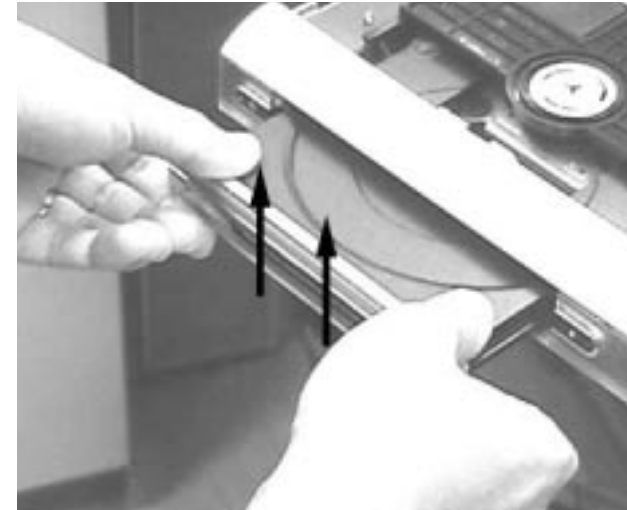

Figure 2
- 2) Slide out the tray and remove the Cover Tray assembly (pos 110 + pos 111 + pos 112) as shown in Figure 2.
- 3) Loosen 5 screws to remove the Cover Top (pos 240).
- 1 screw each on the left & right side (pos 272)
- 3 screws on the rear (pos 270)